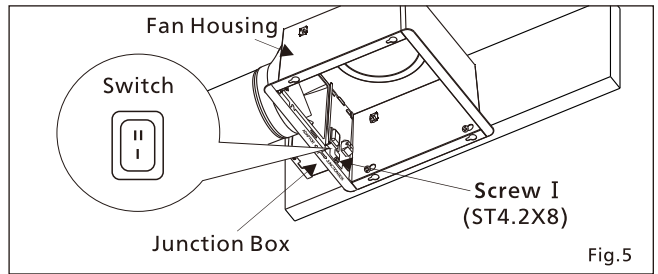

Fig.5
10. Affix the Junction Box to the top of the Fan Housing with Screw I (ST4.2X8). (Fig.5)
11. Select the air volume speed by adjusting the Switch. Factory setting is "I" (Standard) position; pressing "II" (Boost) selects the high airflow position. (Fig.5)